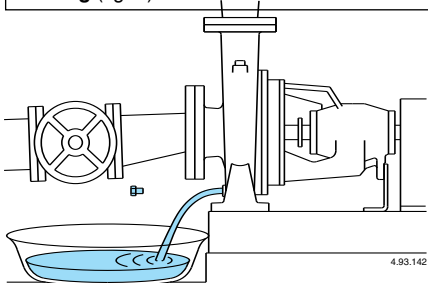

Fig. 9 Draining.
**ATTENTION: when the pump is not used, it must be completely drained if there is a risk of freezing (fig. 9).**
Close the suction and delivery gate valves and drain the pump casing before dismantling the pump (fig. 9).